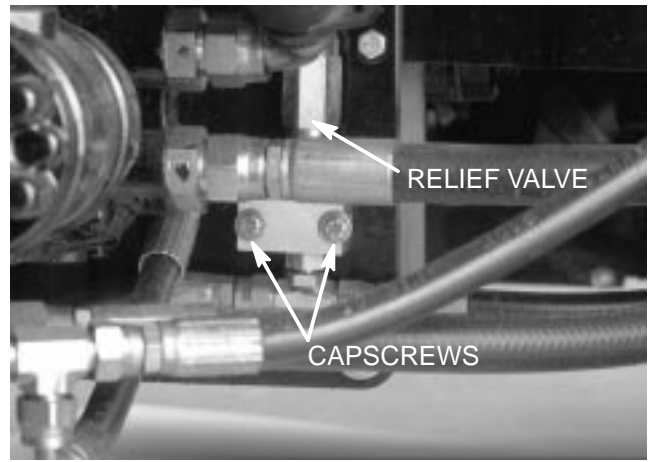

Figure 25
- A. Remove alternator guard (29) from radiator support (8) and frame bracket.
- B. Disconnect breather hose (24) and radiator hose (17) from the radiator elbow (27).
- C. Disconnect radiator hose (2) from the bottom of the water pump.
- D. Disconnect hose (37) from air cleaner at the radiator support (8). Remove hose from the machine
- E. Remove screen (10) from the radiator support.
- F. Remove both cap screws (7) from radiator support and frame. Remove cap screw (18), flat washer (30) and lock nut (9) securing the radiator support and R-clamp (26) to the frame tab.
13. Separate relief valve from the pump plate by removing both cap screws flat washers, and lock nuts (Fig. 25).
11. Secure relief valve to the pump plate with both cap screws, flat washers, and lock nuts (Fig. 25).